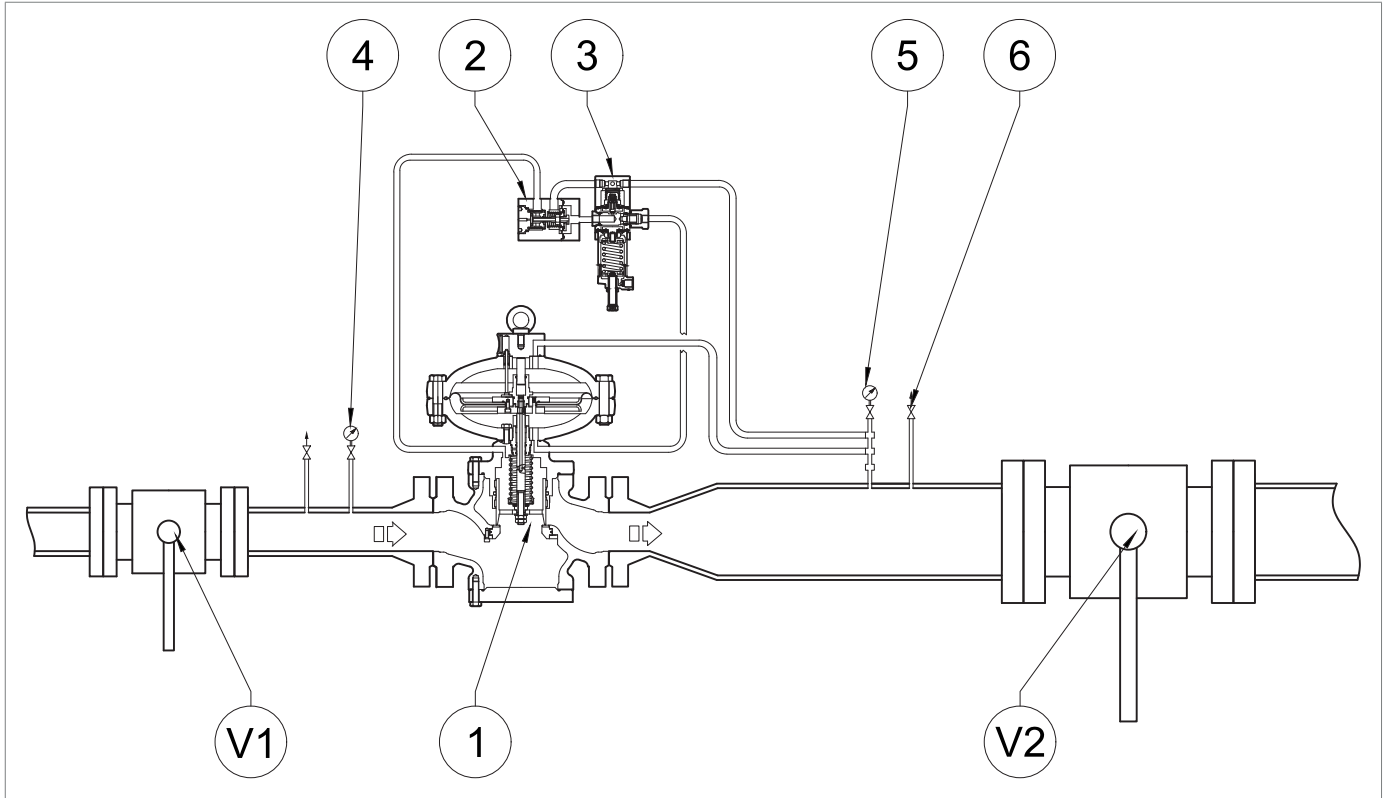

Fig. 8.26. Commissioning of the regulator with 200/MP series pilot
3	Completely unscrew the fixing nut and adjusting screw (Fig. 8.26) of the pilot (3) to relieve the spring.
10	Lock the adjustment screw (Fig. 8.26, ref. 10) with the pilot fastening nut (3).